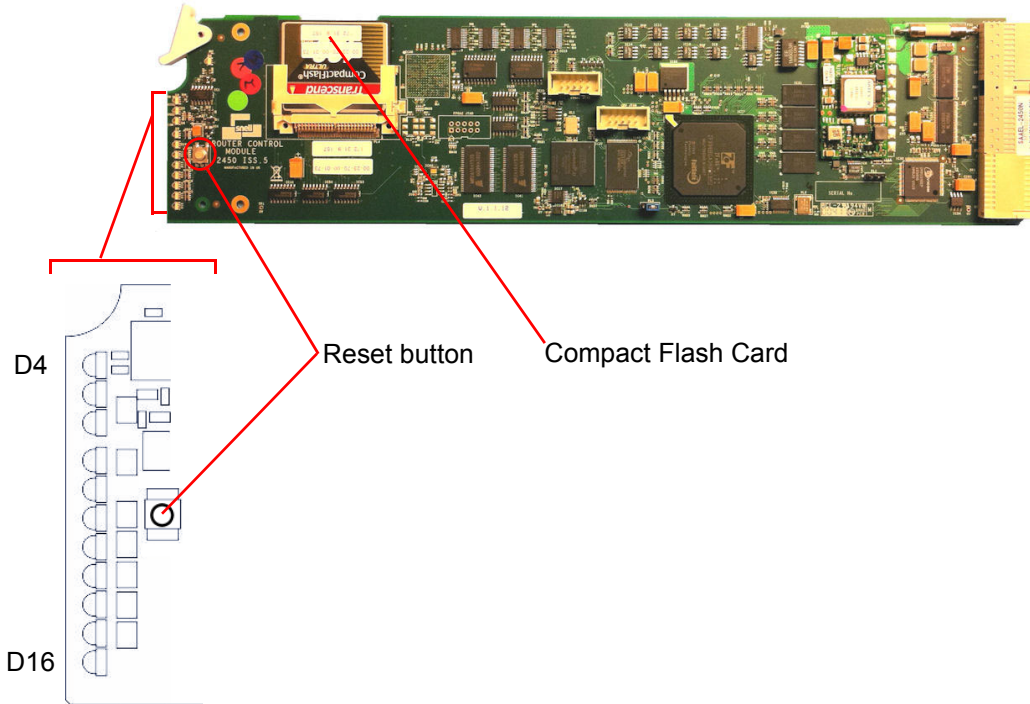

Figure 101 Nucleus 2450 Controller Compact Flash Card, LED D4 and D16
1. Remove the **Idle** Nucleus controller, see Figure 101
1. Remove the **Idle** Nucleus controller, see Figure 101 on page 167 for LED locations: